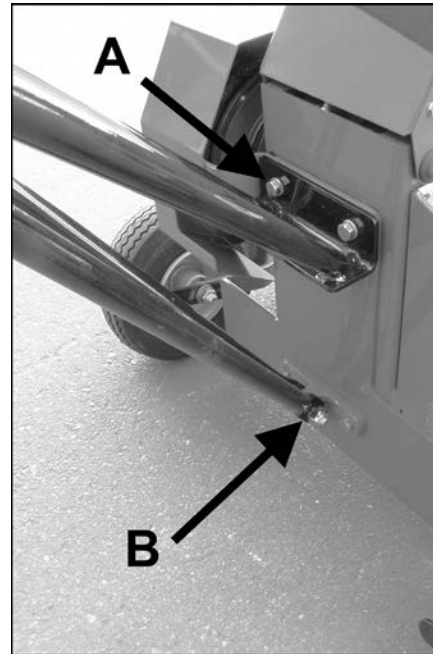

FIGURE 1
5. Remove the two screws and lockwashers from upper rear of gear case **A**. Use those screws and lockwashers to install upper portion of handle. Secure the lower end of the handle **B** with one 1 1/2-13 x 2" screw and one 1/2-13 insert locknut. (Figure 1)